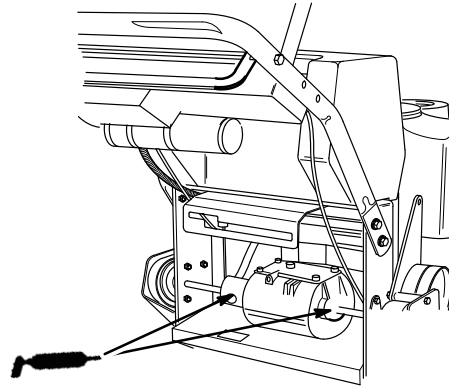

Figure 25
2. Lubricate the transmission couplers (Fig. 25). Guard does not have to be removed if you go in from the front, next to engine.